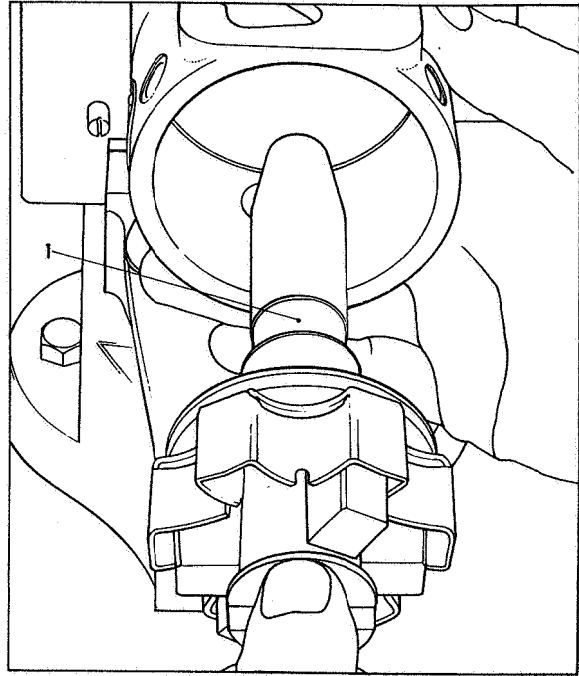

Fig 48 Inserting drive shaft
Fit Protection Cap Part No 7144-900 over tapered end of drive shaft (1) Fig 48. Dip protection cap in clean test oil and insert drive shaft with a rotating action through the drive hub seals in the manner shown. When the drive shaft is securely home, detach the protection cap and assemble drive hub thrust washer, drive shaft circlip, drive shaft key, geared hub, spring washer and drive shaft nut to the drive shaft.